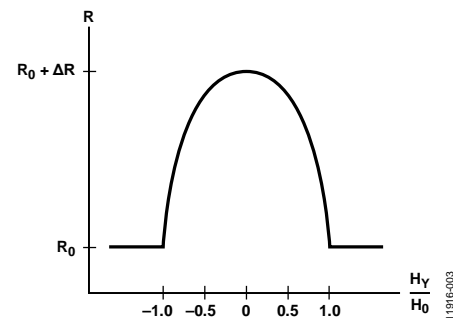

Figure 3. Permalloy Resistance vs. Magnetic Field
First, permalloy has a narrow linear operating region (see Figure 3). Only when the angle (θ) between the magnetization vector (M) and current flow vector (I) becomes larger, does the response become linear. Unfortunately, shortly after the response becomes linear, it will saturate.